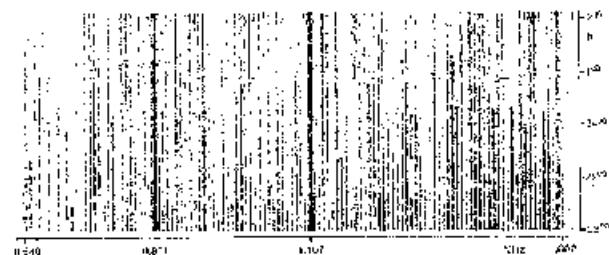
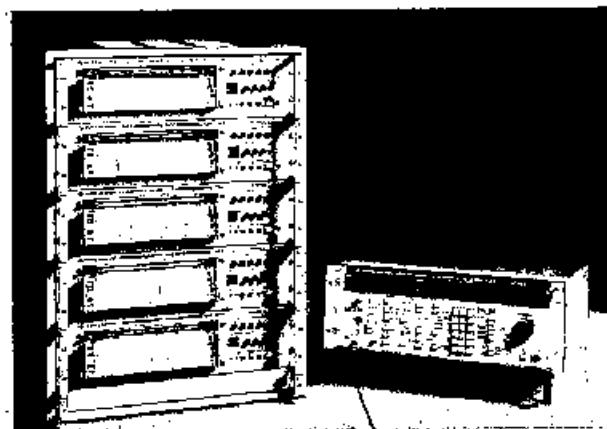

Fig.12 Frequency-band occupancy over medium-wave band plotted on Radiomonitoring Recorder ZSG 3.
Fig.13 ESH 3 with five Radiomonitoring Recorders ZSG 3 for scanning five different frequency bands and plotting the band occupancy.
- Recording of frequency-band occupancy as a function of time on the Radiomonitoring Recorder ZSG 3. When the signal level exceeds the preset threshold level (= MIN. LEVEL) the recorder traces a dash (Fig. 12). The ESH 3 can drive up to five Radiomonitoring Recorders ZSG 3 in a sequential cycle (Fig. 13).